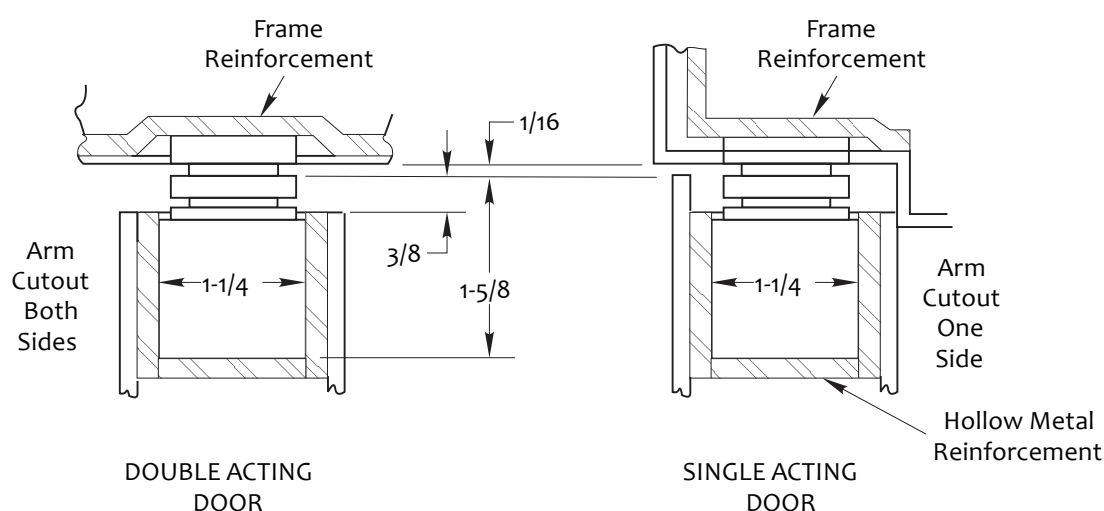

Figure 4 Arm cutout for single and double acting doors
- The jamb bracket shall be reinforced with a backer plate not less than 3/16" thick and 12" long. (Figure 4)
- Maintain a 1/16" clearance between the arm and the door frame. Adjust the mortise dimensions as required to achieve proper clearance. (Figure 4)
- All slide track channels shall be properly reinforced during installation as shown. (Figure 4)
- Determine whether to provide cutouts on both sides based on single-swing or double-swing door configuration. (Figure 4)